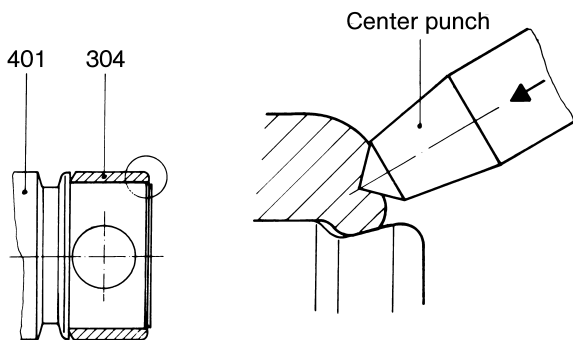

Figure 7: Locking the retaining sleeve.
- Push clamping bands (306), cover sleeves (308) and retaining sleeve (304) onto the shank of the coupling rod (307).
- Push coupling rod (307) into the head of the rotor (401).
- Push coupling rod pin (301) into the coupling rod bush (302), and drive in bushes for coupling rod pin (303) completely.
- Polish retaining sleeve (304) at the outside diameter, if necessary, with emery, and mount on the head of the rotor (401).
- Following mounting of the retaining sleeve (304), secure same against axial displacement on the head of the rotor (401).
**ATTENTION** For these purposes, drive face of the retaining sleeve (304) into the groove at the head of the rotor (401) with one punch mark (please refer to Figure 7 below).